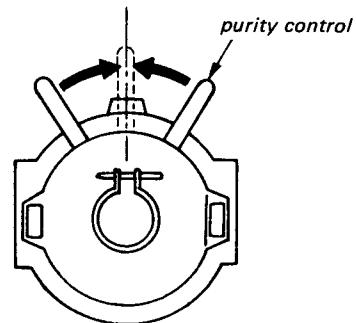

Fig. 3-1.
- Adjust purity control as shown in Fig. 3-1.